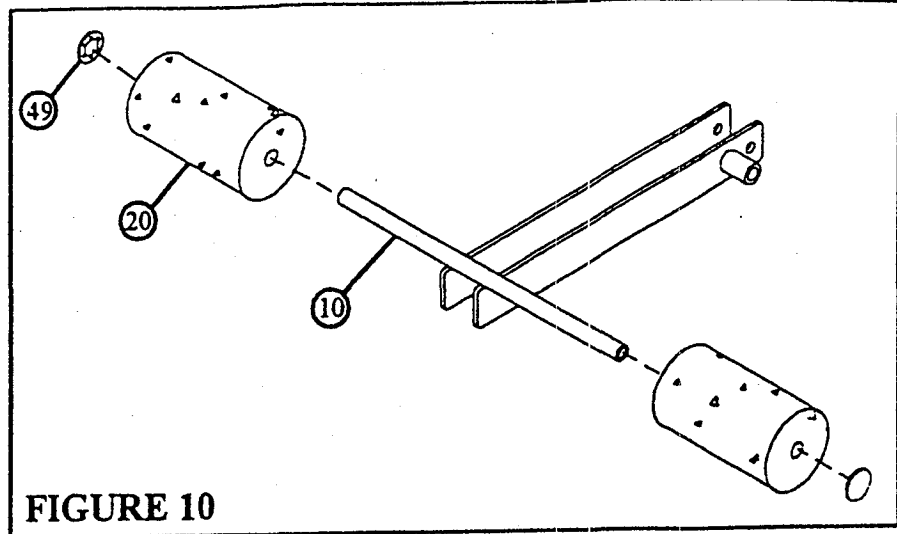

FIGURE 10
- Assemble two 4 X 7" ROLLER PADS (20) to the SWIVEL KNEE SUPPORT (10) using two STARLOCK COLLARS (49) as shown in FIGURE 10.